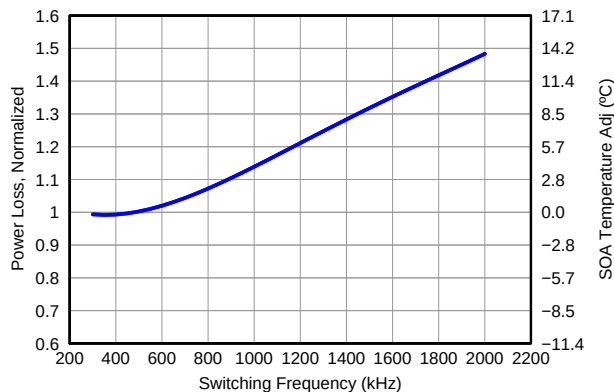

Figure 12. Normalized Power Loss vs Frequency
- Normalized Power Loss for switching frequency ≈ 1.08 (Figure 12)
- SOA adjustment for switching frequency $\approx 2.6^\circ C$ (Figure 12)